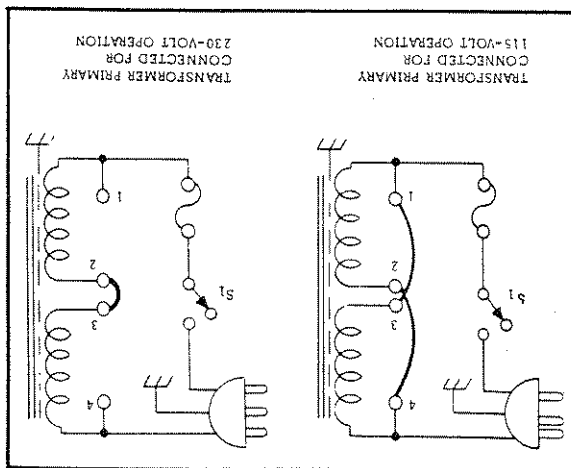

Figure 2-3. Input Power Transformer, Connections
2-17 Connections for 230 Volt Operation (Figure 2-3)
b. Remove the jumpers between taps 4-2 and 3-1. Solder a jumper between taps 3-2 on the input power transformer T1, see Figure 2-3.